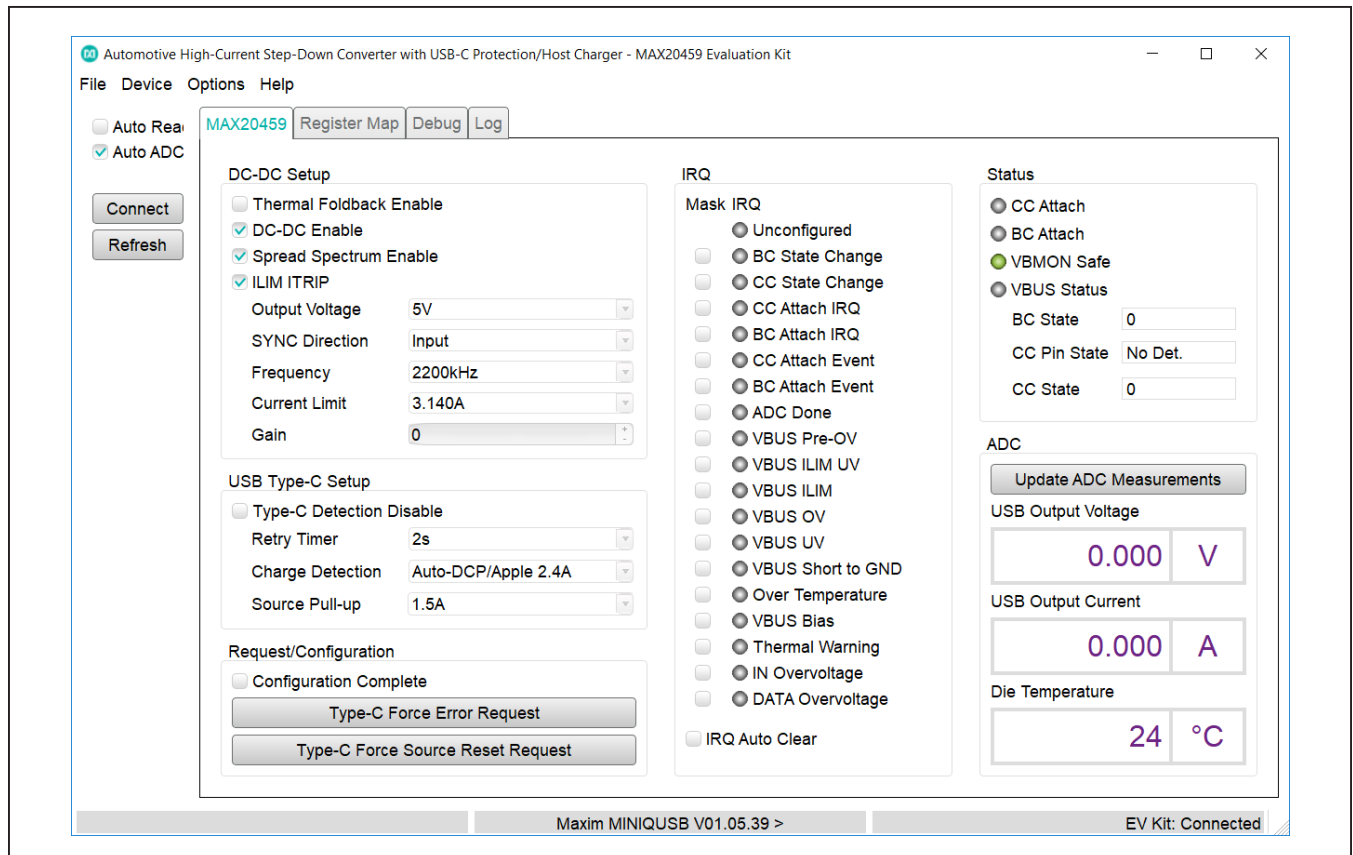

Figure 4. MAX20459 GUI Startup
11) Start the MAX20459 GUI. Look at the message bar at the bottom of the GUI to verify that both the MINIQUSB and the EV kit are detected. The GUI should look like Figure 4 upon start-up.